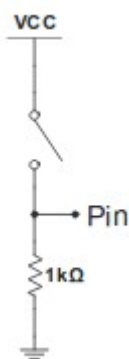

Figure 3: Dip Switch Circuit
2.1. Place a block of 8 DIP switches on your proto-board. Wire each pin according to the circuit shown in Figure 3.